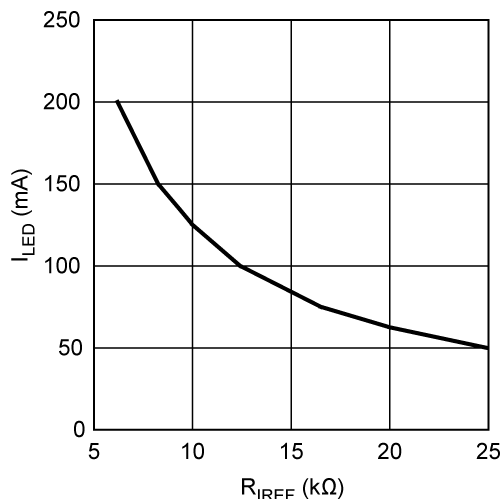

Figure 19.  $I_{LED}$  and  $R_{IREF}$
The current of an LED string ( $I_{LED}$ ) is programmable from 50 mA to 200 mA by an external resistor  $R_{IREF}$  connecting from the IREF pin to the ground. The relationship between  $I_{LED}$  and  $R_{IREF}$  is shown in Figure 19. The two channels of the current regulator can work in parallel for only one LED string by connecting the IOUT1 and IOUT2 pins together to provide an LED current of up to 400 mA. In this case, the DIM1 and DIM2 pins should also be connected together.
**$R_{RT}$  and  $R_{REF}$ :** The resistors  $R_{RT}$  and  $R_{REF}$  set the switching frequency  $f_{SW}$  of the boost converter and the LED current  $I_{LED}$  respectively. From Figure 16, if  $f_{SW}$  is 300 kHz,  $R_{RT}$  is selected to be 499 k $\Omega$ . From Figure 19, if  $I_{LED}$  is 200 mA,  $R_{REF}$  is selected to be 6.19 k $\Omega$ .